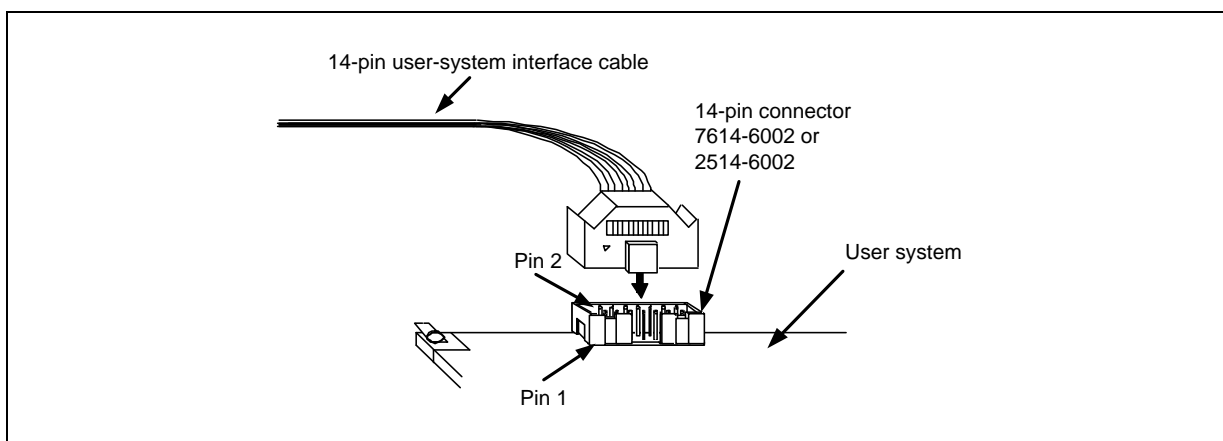

Figure 2.3 Connecting the User Interface Cable to the User System when the 14-Pin Connector is in Use with the E2 Lite
- (3) For the pin assignments of the connector, refer to the E1/E20 Emulator, E2 Emulator Lite Additional Document for the User's Manual.
- (4) Connect one end of the user interface cable to the E2 Lite and the other end to the connector on the user system as shown in Figure 2.3.